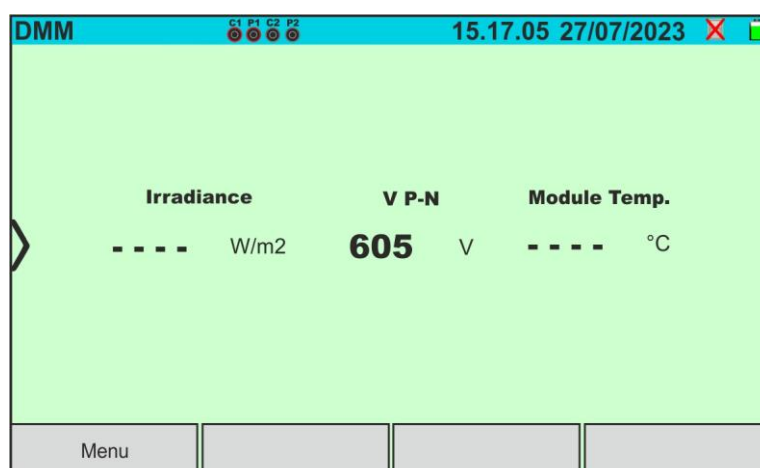

Fig. 14: DMM function measurement screen (SOLAR03 disconnected)
3. Tap on the "**Multimeter**" icon on the second page of the main menu. The value of the DC voltage V P-N is shown on the display as illustrated in Fig. 14. Tap on the "Menu" key to return to the main menu